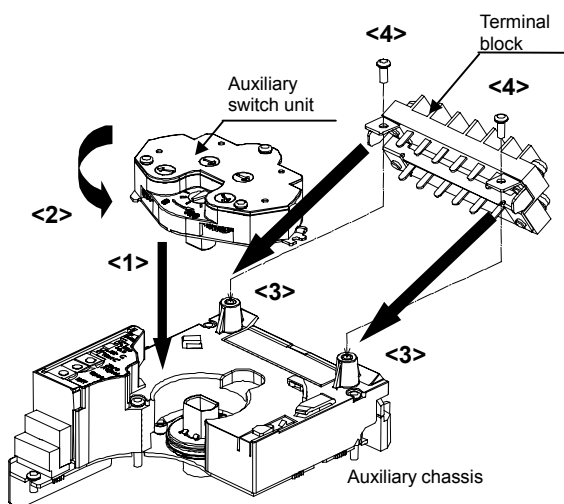

Figure 8. Assembling the auxiliary switch unit
- (2) Insert the shaft of the auxiliary switch unit into the shaft of the control motor. (Align the tip of the arrow to the graduation side.) <Step 1 in Fig. 8>
- (3) Turn the auxiliary switch unit counterclockwise until it clicks. <Step 2 in Fig. 8>
- (4) Align the holes of the fixtures of the terminal block with the screw holes on the auxiliary chassis. <Step 3 in Fig. 8>
- (5) Fix the terminal block with the two screws. <Step 4 in Fig. 8>